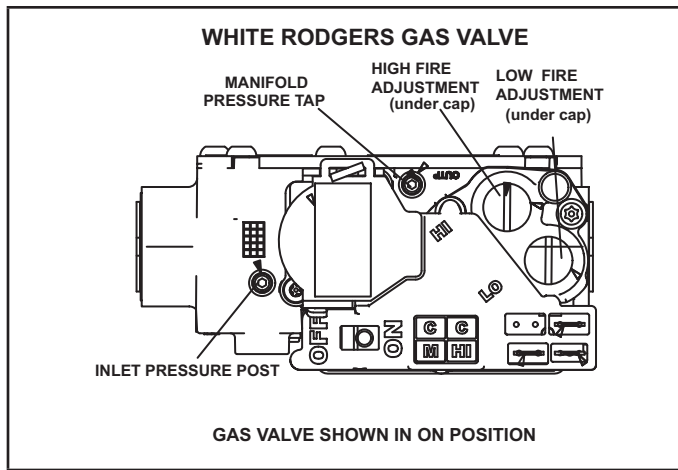

FIGURE 32
Gas Valve Operation (Figure 32)
- 6 - Move switch on gas valve to OFF. Do not force. See figure 32.
- 8 - Move switch on gas valve to ON. Do not force. See figure 32.
An inlet post located on the gas valve provides access to the supply pressure. See figure 32. Back out the 3/32" hex screw one turn, connect a piece of 5/16" tubing and connect to a manometer to measure supply pressure. See table 13 for supply line pressure.
A manifold pressure tap located on the gas valve provides access to the manifold pressure. See figure 32. Back out the 3/32 hex screw one turn, connect a piece of 5/16" tubing and connect to a manometer to measure manifold pressure.
- 1 - Connect test gauge to manifold pressure tap (figure 32) gas valve.
- 4 - If necessary, make adjustments. Figure 32 shows location of high fire and low fire adjustment screw.